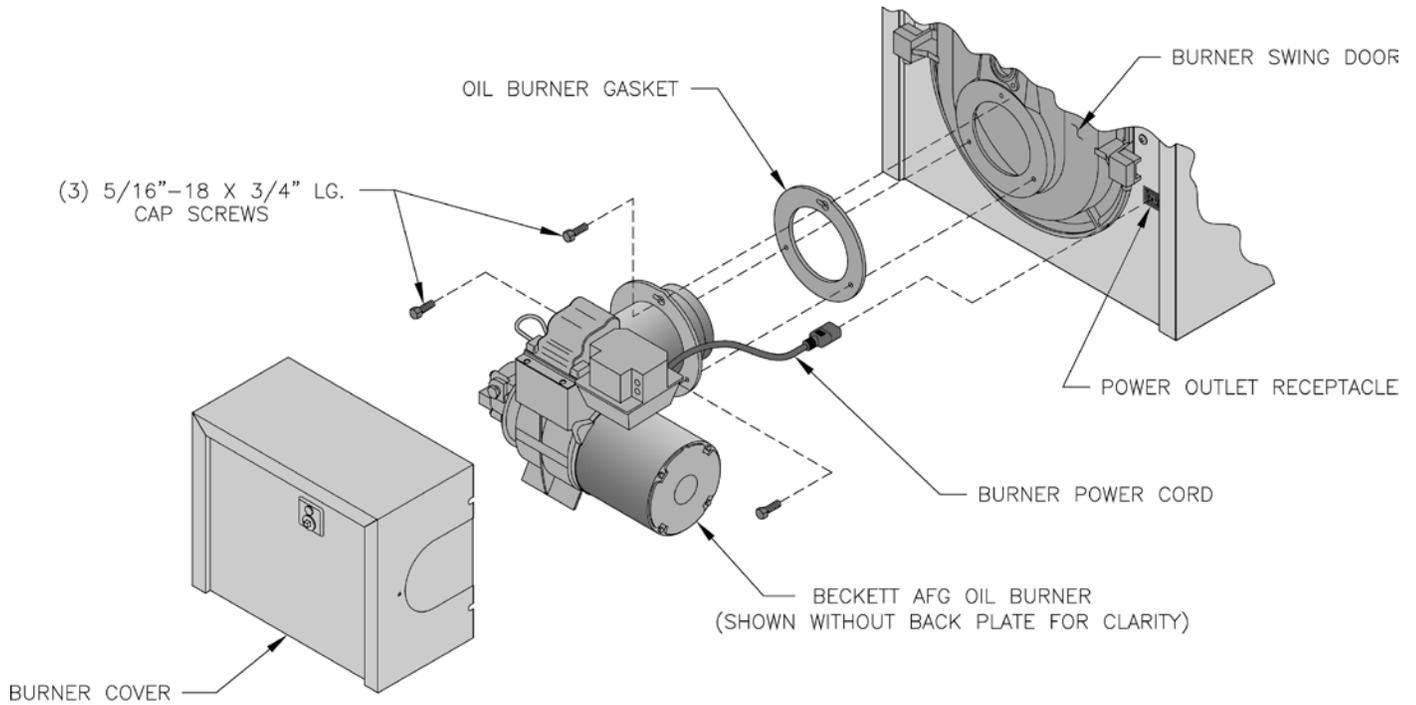

Figure 10: Oil Burner Installation
1. Install oil burner, refer to Figure 10.